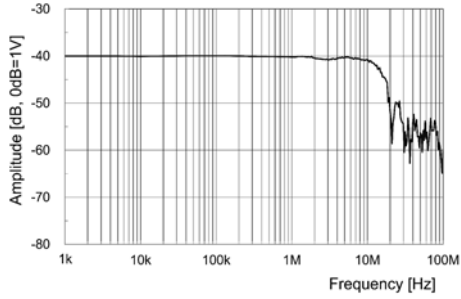
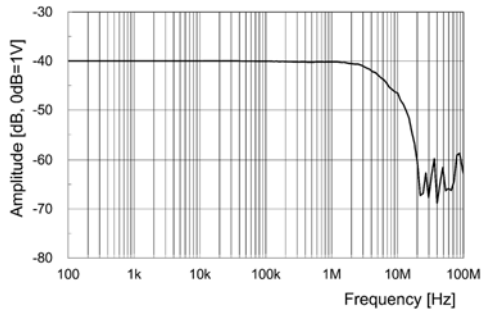

Fig.1 Frequency characteristics (Typical) (3274)
Fig.2 Frequency characteristics (Typical) (3275)
Bandwidth	Model 3274 : DC to 10 MHz (-3 dB) (Typical characteristics shown in Fig.1) Model 3275 : DC to 2 MHz (-3 dB) (Typical characteristics shown in Fig.2)
- The current consumption of clamp-on probes depends on the current to be measured. Confirm that the total current consumption of the clamp-on probes does not exceed the rated output current of the 3272. See Figure 1.